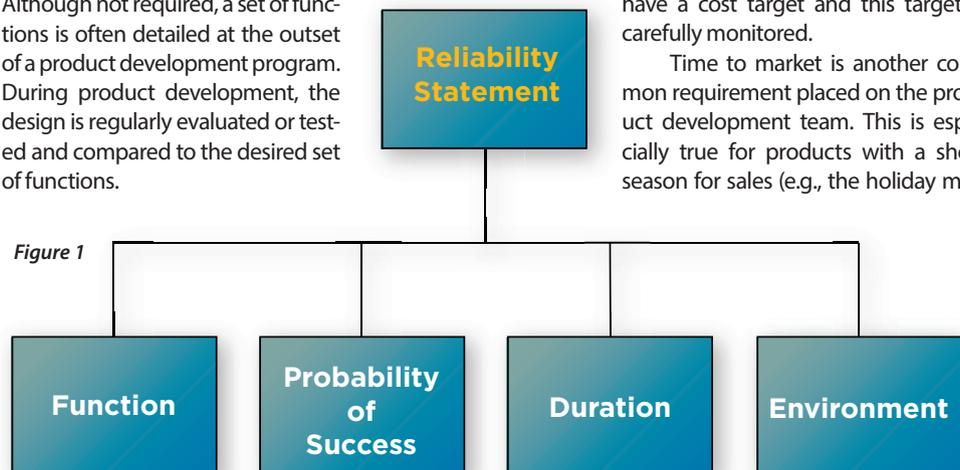

Figure 1
**R**eliability is the probability of a product successfully functioning as expected for a specific duration within a specified environment. Figure 1 shows the four key elements to reliability: function, probability of success, duration and environment. Maintainability is a characteristic of design, assembly and installation that is the probability of restoration to normal operating state of failed equipment or systems within a specific timeframe, using specified repair techniques and procedures. Maintainability is related to reliability because when a product or system fails, there may be a process to restore the product or system to operating condition.